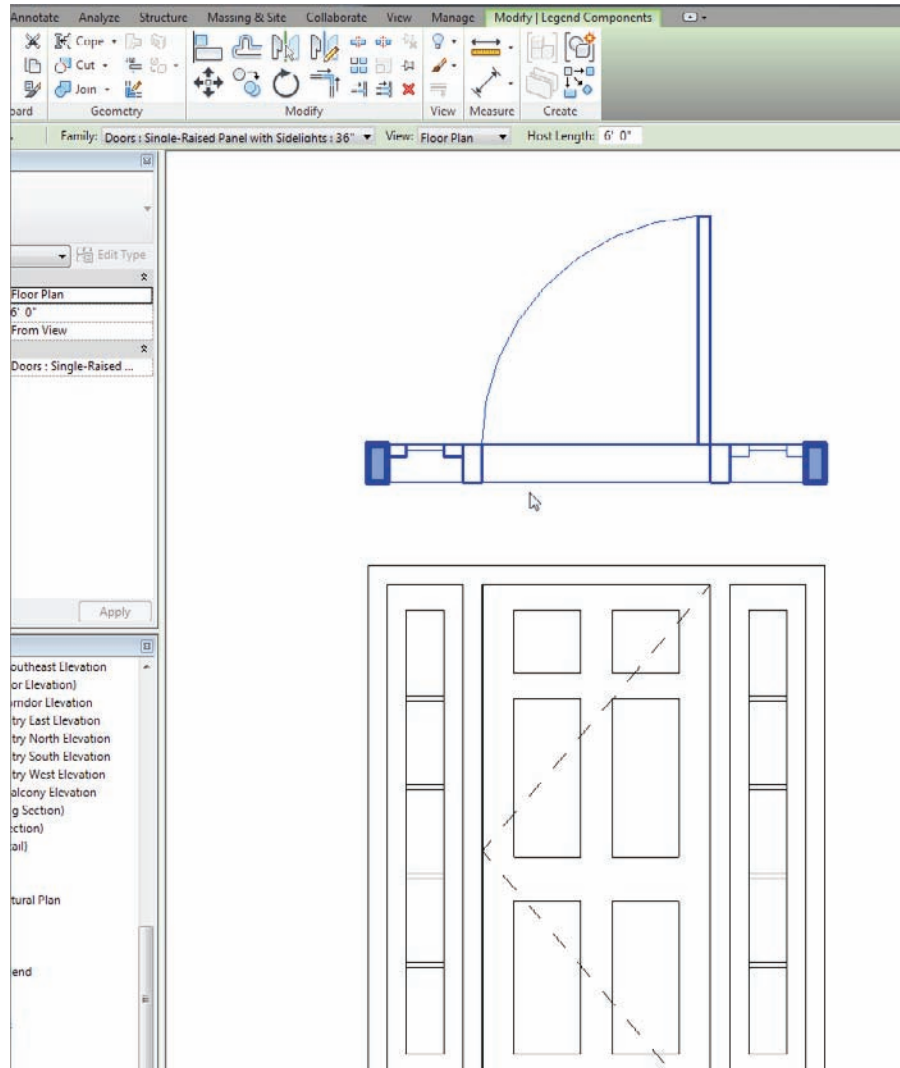

FIGURE 11.43 Placing two instances of the same door for the legend
6. With the command still running, you can place another instance. Doing so changes the view to Floor Plan. Place another instance of the door just above the elevation, as shown in Figure 11.43. Revit provides a snap line on the left side for alignment.
7. In the Options bar, be sure Host Length is set to 6'-0" (see Figure 11.43).